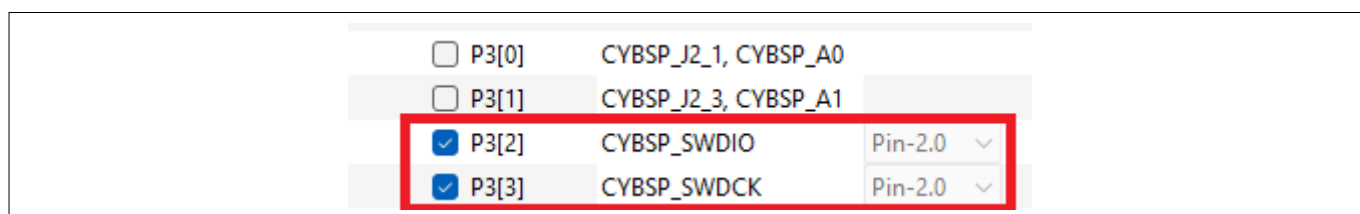

Figure 10 Change device mode to GPIO
2. In the Device Configurator, go to the **Pins** tab and look for the pins labeled “CYBSP_SWDIO” and “CYBSP_SWDCK”, as Figure 10 shows